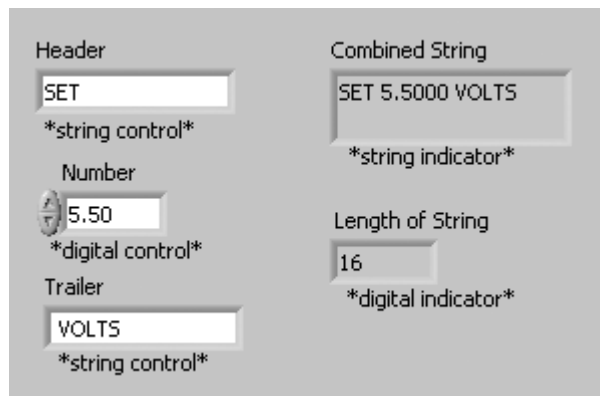

Figure 9.16
1. Build the front panel shown in Figure 9.16.